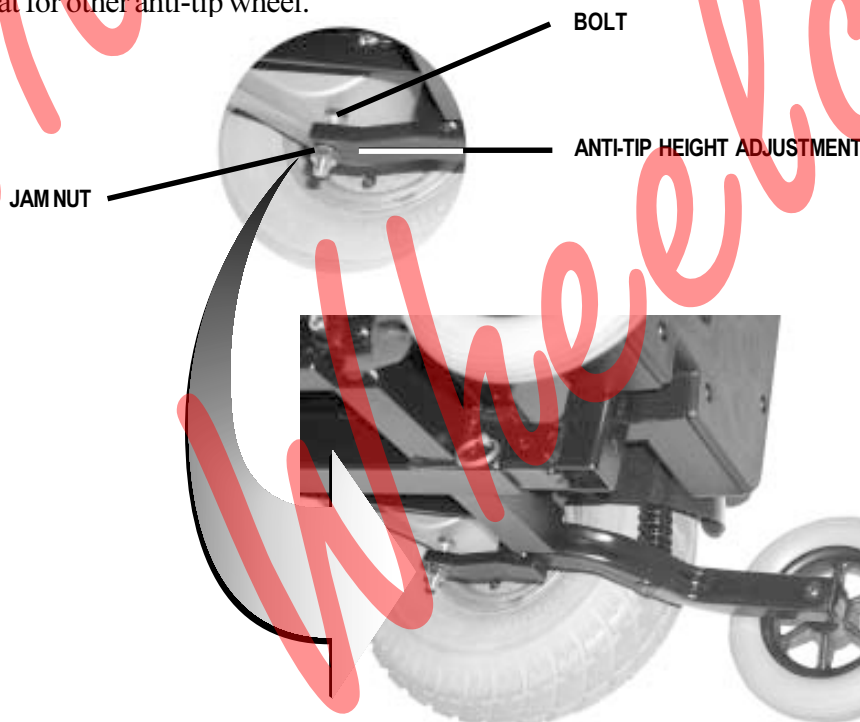

Figure 15. Anti-tip Height Adjustment
2. Locate the jam nut and bolt on the anti-tip assembly. See figure 15.